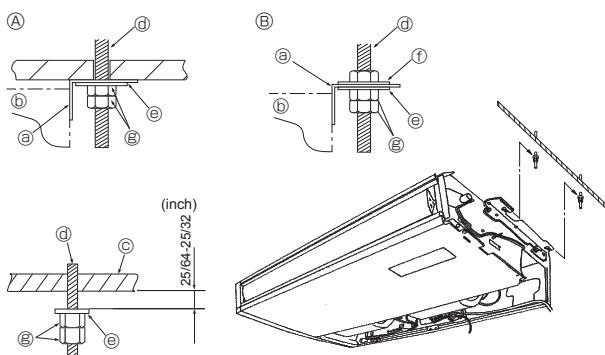

Fig. 3-6
⑤ Forcing open the intake grille or opening it to an angle of more than 120° may damage the hinges.
3.3. Installing the indoor unit (Fig. 3-6)